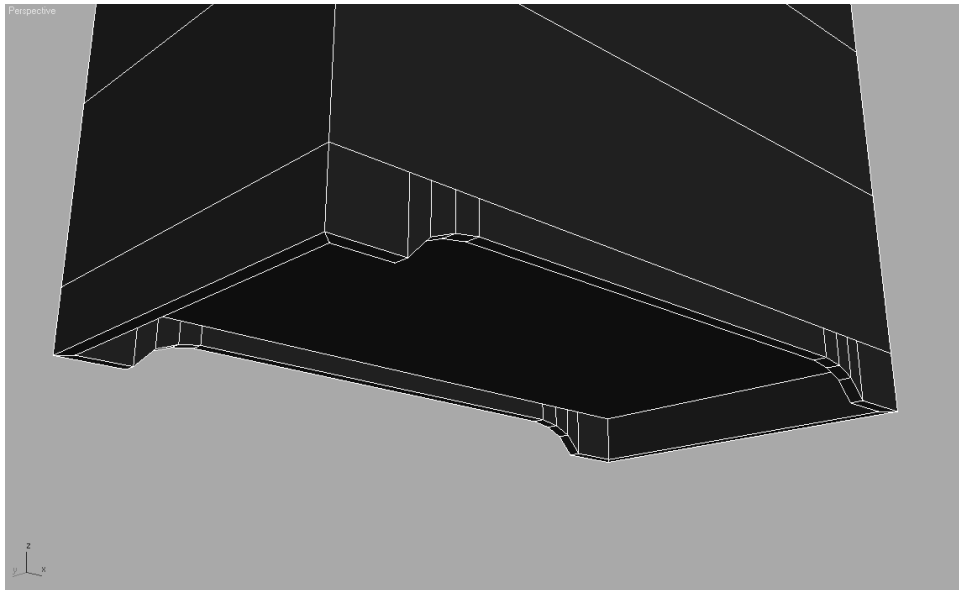

Figure 4.59
8. Press the spacebar to unlock your selection. You are going to use a combination of moving edges and polygons to create the detail on the bottom of the dresser. Simply select the relevant polygons, and use the Move tool to place them as shown in Figure 4.59.